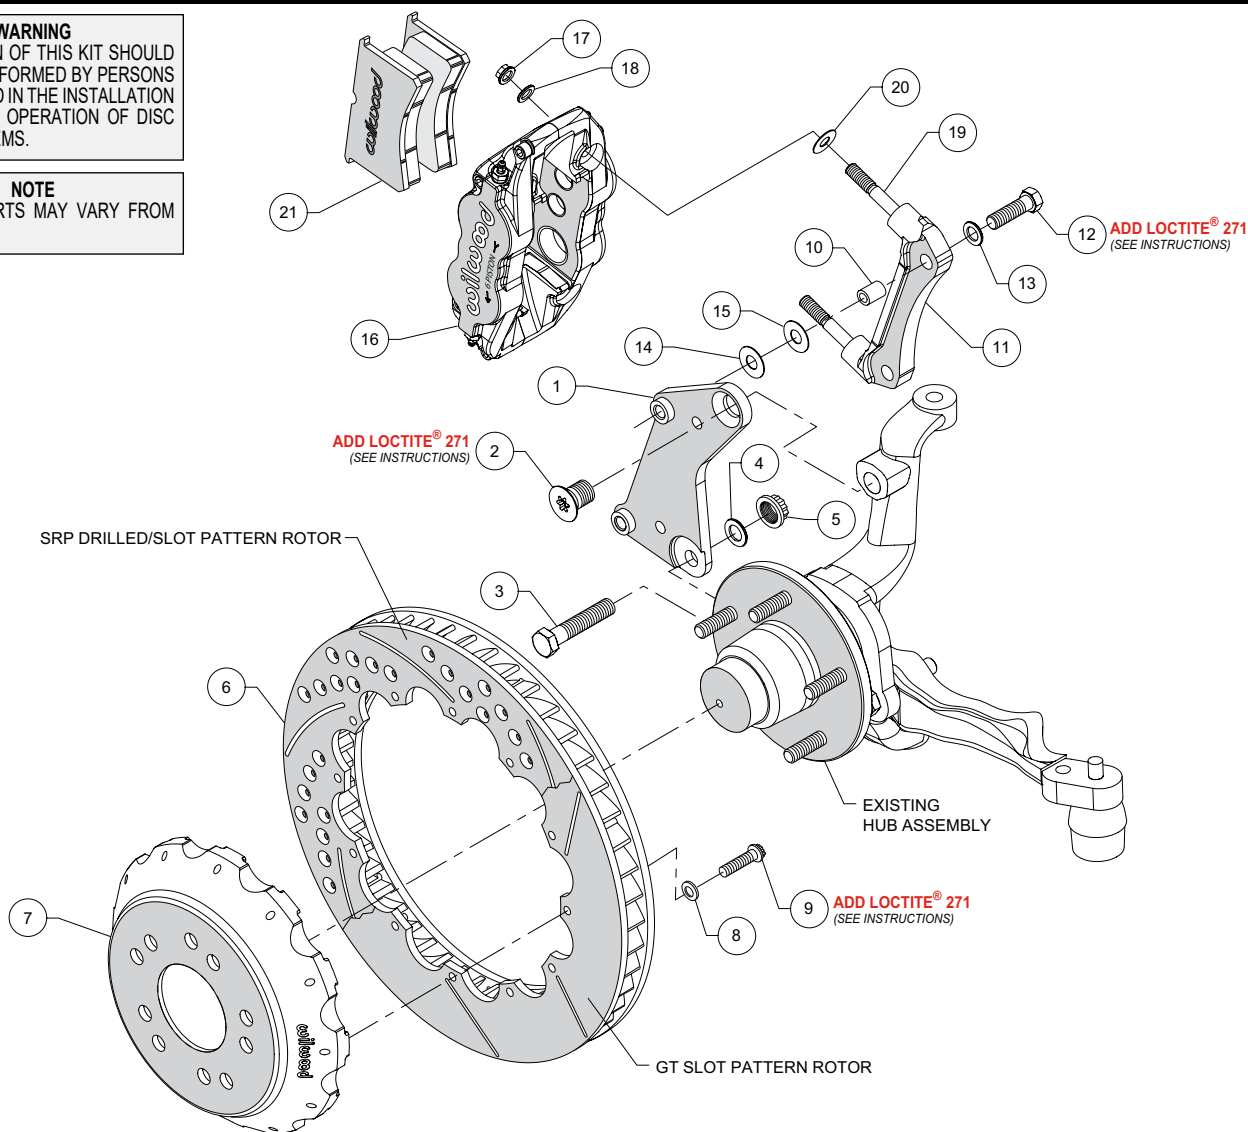

Figure 1. Typical Installation Configuration
•The radial mount caliper bracket assembly (11) should be installed first with clean, dry threads on the mounting bolts. Slide bolt sleeve (10) into the mounting holes of bracket (11). Install the bracket on the back side of the spindle/flat caliper mounting bracket (1) by sliding bolt (12) through washer (13), and through sleeve (10.) Initially place three shim washers (14) between the two brackets (1 and 11) (see Figure 1). The bracket must tighten squarely against the side of the spindle/caliper bracket. Inspect for interference from casting irregularities, machining ridges, burrs, etc. Later, after the caliper, pad, and rotor alignment has been checked, and any necessary shims have been put in place, the mount bolts should be coated with red *Loctite*® 271 and torqued to 47 ft-lbs.
•**NOTE:** This kit contains distinct right and left hand calipers that must be mounted in a specific direction, as described below. Initially place one .035" thick shim (20) on each stud (19) as shown in Figure 1. Mount the caliper (16) onto the radial mount bracket (11) using lock nuts (17) and washers (18), Figure 1. Ensure that the caliper is mounted so that the largest pistons are at the rotor exit end of the caliper, in relation to the direction of rotor rotation. Temporarily tighten the lock nuts and view the rotor through the top opening of the caliper. The rotor should be centered in the caliper. If not, adjust by adding or subtracting shims (14 and/or 15) between the spindle/caliper mounting bracket (1) and the radial mount bracket (11). Always use the same amount of shims on each of the two mounting bolts.
•Remove the caliper center bridge pad retainer bolt, nut, and tube from the caliper. Slide the brake pads (21) into place. They should install easily without interference. Check that the outside radius of the brake pad is flush with the outside diameter of the rotor face. Add or subtract shims (20) between the caliper and mount bracket to gain the proper alignment. Reinstall the center bridge pad retainer tube, bolt, and locknut. The locknut should be snug without play in the bolt or tube. Be cautious not to over tighten.
•Once all clearances have been checked, remove the wheel, caliper, hat, and rotor from the spindle and hub. Secure the spindle/caliper mounting bracket (1) to the spindle with bolts (2 and 3) using red *Loctite*® 271 on the bolt threads. Torque bolt (2) to 140 ft-lb and bolt (3) to 77 ft-lb. Remove bolts (12) from the radial mount caliper bracket (11) and coat threads with red *Loctite*® 271 and reinstall. **NOTE:** Only removing one bolt at a time, then coating the threads and reinstalling will help keep all the shims in place. Torque bolts (12) to 47 ft-lb. Reinstall the hat and rotor assembly and again use lug nuts to hold it in place. Reinstall the caliper (16), torque the caliper nuts (17) to 30 ft-lb.